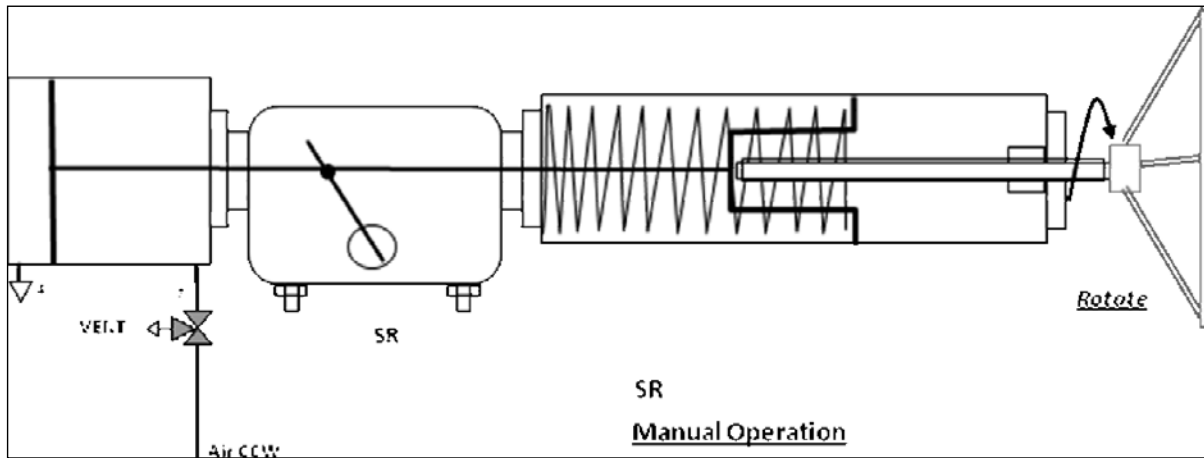

Fig.: 2 Install Jackscrew Override (SR)
2.3 Install jackscrew override onto existing heavy duty SR actuator (see Fig.: 2)